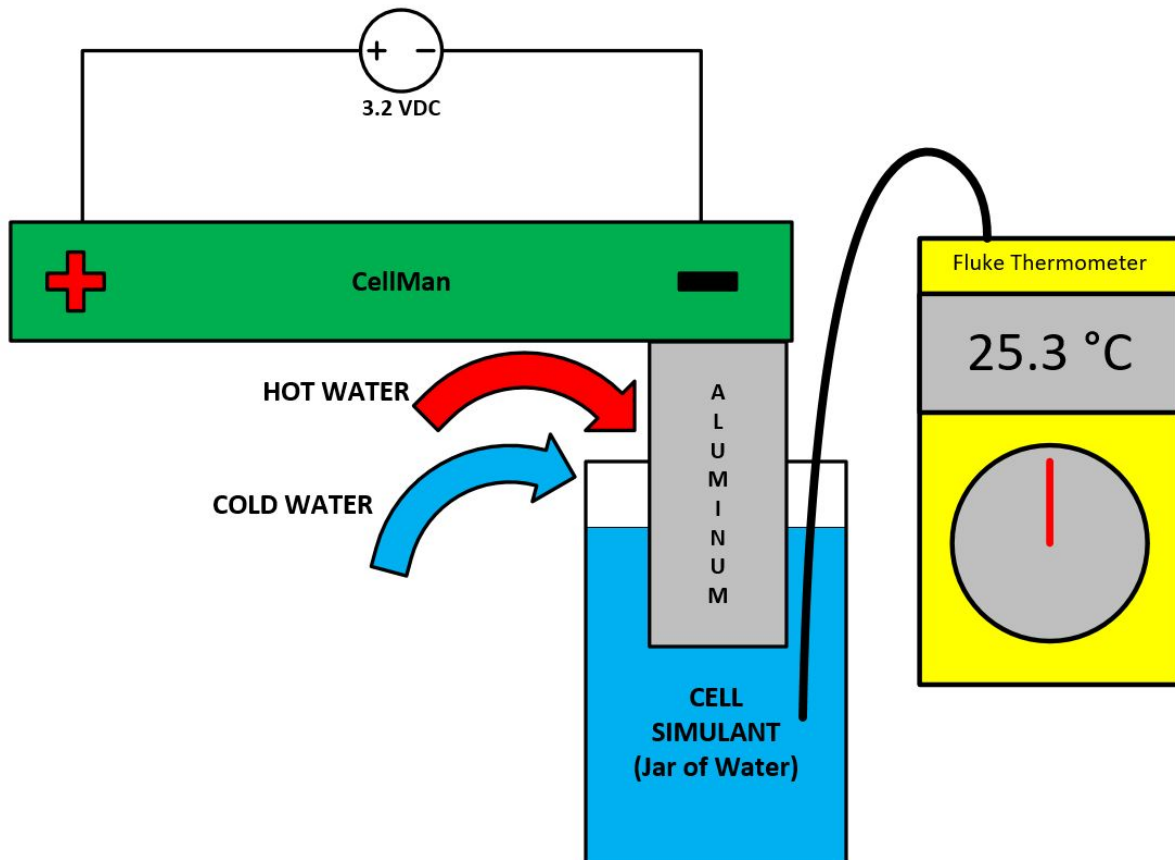

Figure 2 - TSV Prototype CellMan Configuration for Temperature Measurement Testing
- Summary: Measure 7 CellMan temperatures on SCADA with the AMS with cell temperatures at ambient room temperature and near 40 °C and 60 °C. Set up each CellMan according to Figure 2.